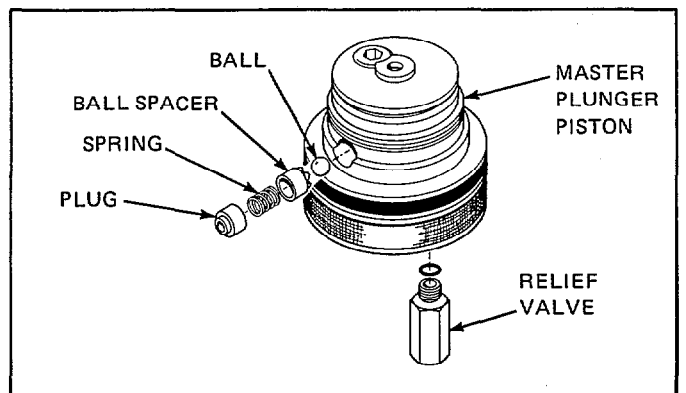

Figure 13. Sequence Valve Ball Assembly and Relief Valve
5.1-2 Bi-Element Seal Assemblies (Fig. 13)
9. Remove the relief valve located on the bottom of the master plunger piston. See Figure 13. It is recommended that the relief valve be replaced.
15. Reinstall the ball, ball spacer, spring and plug in the master plunger piston. See Figure 13. Make sure the ball seats correctly.